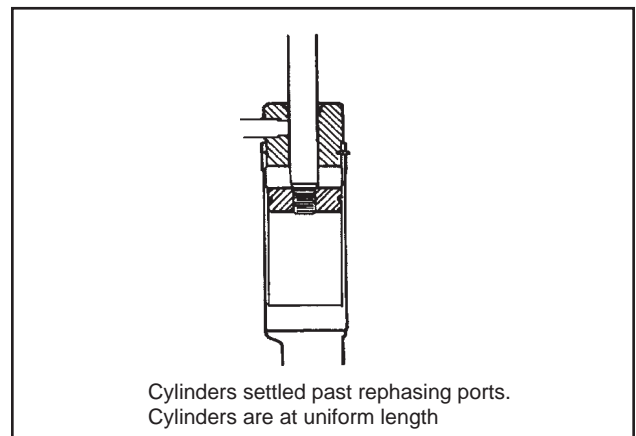

Figure 2
2. Return hydraulic lever to neutral for several seconds to allow the cylinders to settle past rephasing ports. (Figure 2)